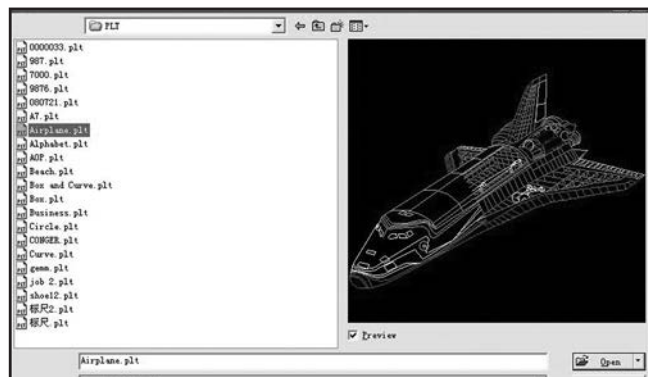

Figure 32. Selecting file to import.
2. Navigate to your desired file and select it. The file will now be highlighted (see **Figure 32**).